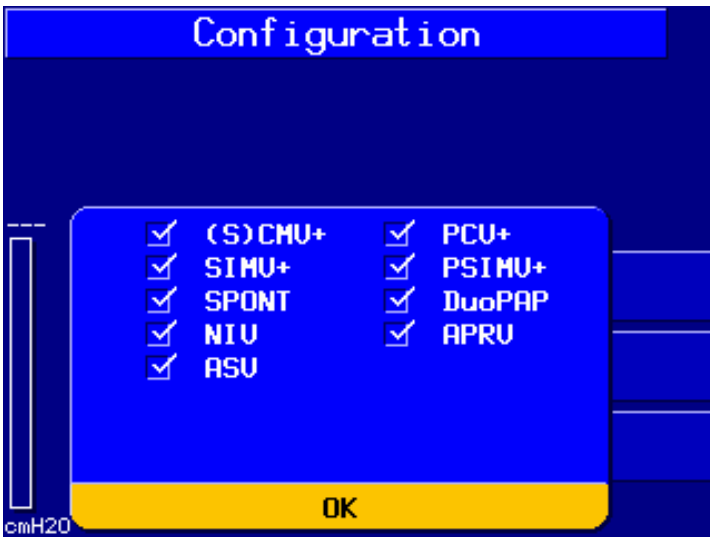

Figure E-4. Available modes window
3. You will see the available modes window (Figure E-4). Select a mode. Enable or disable to display or suppress the mode; suppressed modes will not be shown in the mode window during ventilation. Continue with remaining modes. Confirm.